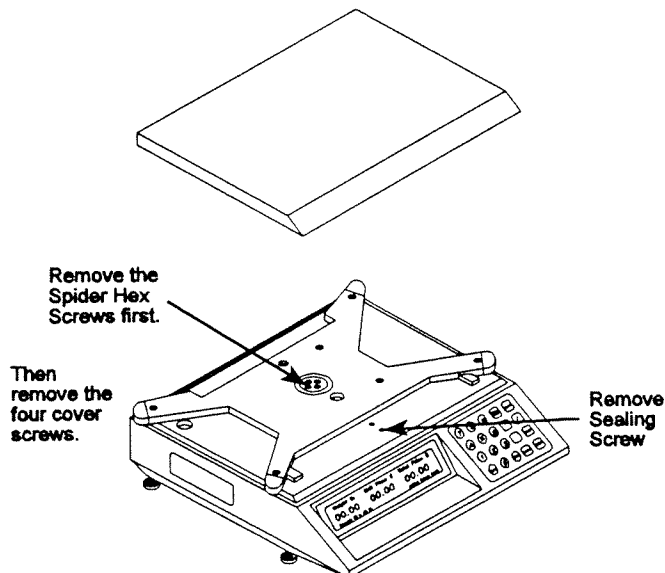

Figure 8.1 8422 Spider/Cover Removal
8.1.2 **8422** Remove the Platter. Using the 1-3/16" Allen Wrench, remove the spider hex screws, then remove the sealing screw and the four top cover screws as shown in Figure 8.1.